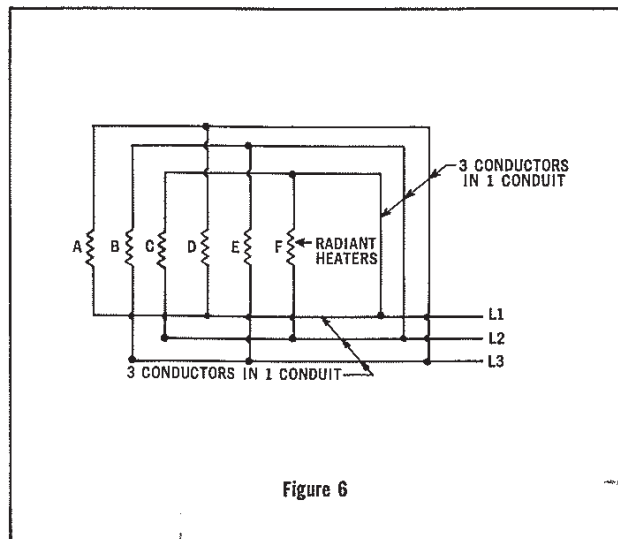

Figure 6
**9. DELTA CONNECTIONS** — When heaters occur in multiples of three, they may be connected to, and balanced across, three-phase lines. The most commonly used connection is the delta connection illustrated in Figure 6.